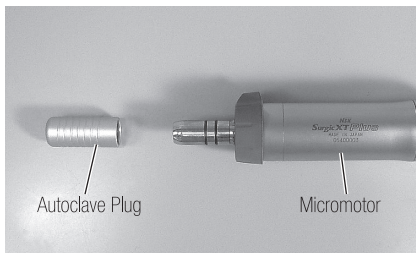

Fig. 23
- Attach the Autoclave Plug to the Micromotor. (Fig. 23 & 24)